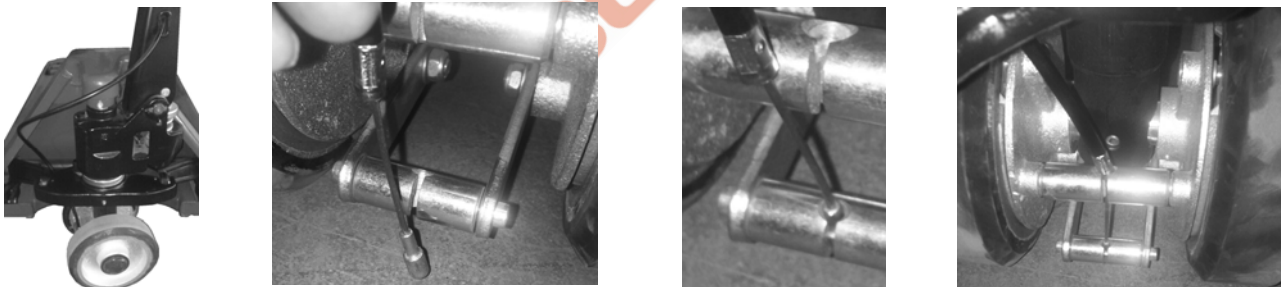

Fig.10: Progressive drive and parking brake
- a) Turn the pump 90 degree to right side, then pass through the brake cable behind the thrust plate.(Fig.10)